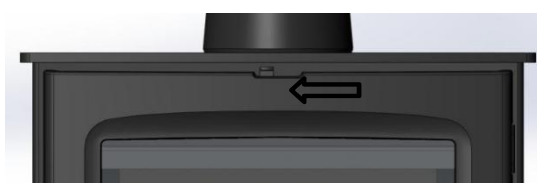

Fig. 9. Closed/Reduced Position
- To shut down or reduce the air supply, slide the control knob to the left (see figure 9).